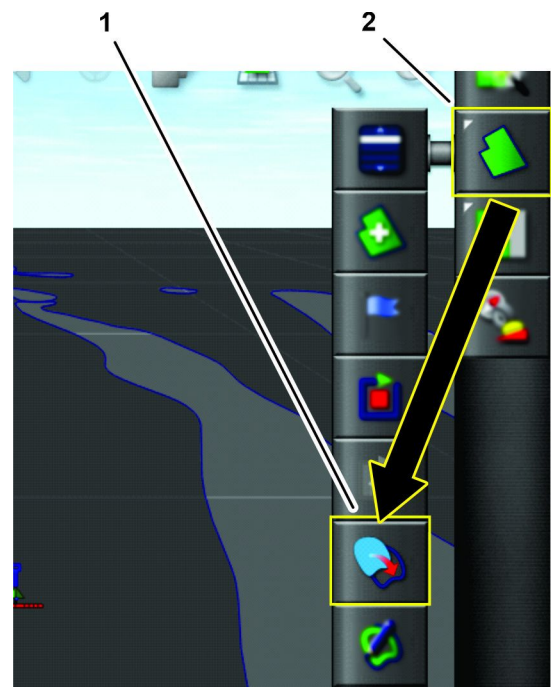

Figure 73
4. Press the FIELD MENU icon, and press the CREATE BOUNDARY FROM SHAPE FILE icon (Figure 73).